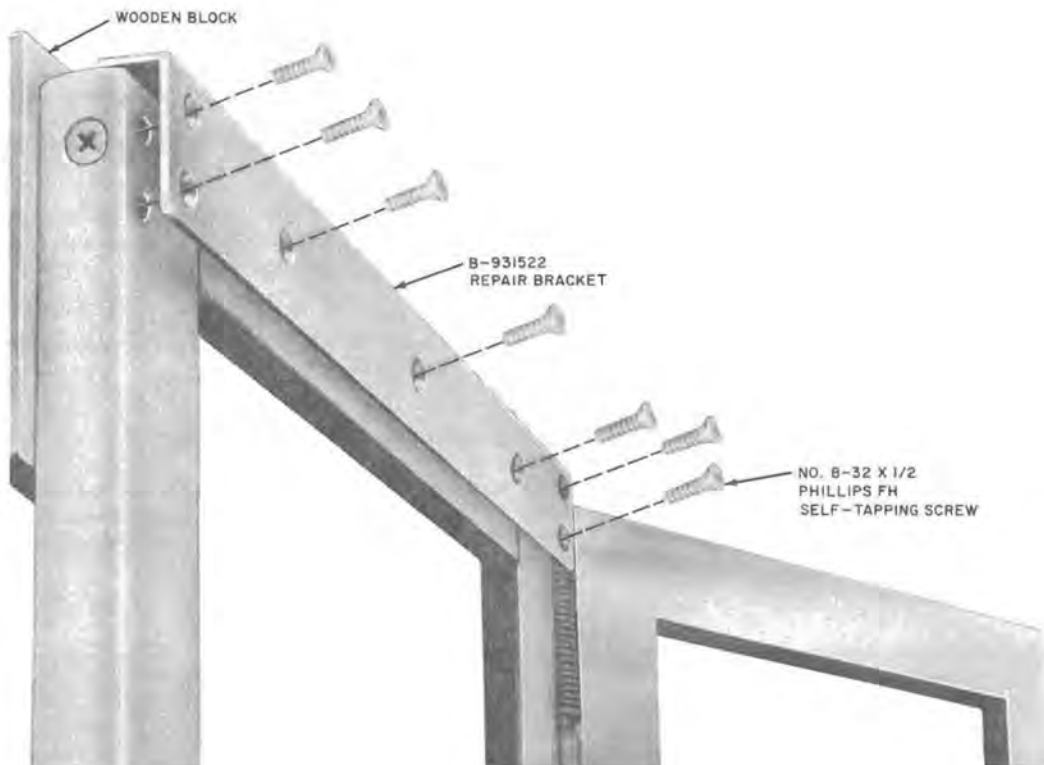

Fig. 27—Installation of Door Repair Bracket
4.08 Replace door sections that have broken mitered joints. Repair solid-type (one piece) sections. (See Fig. 27). Fracture usually occurs because of misuse, improper adjustment, or because booth is not level. Check the cause and repair as follows: